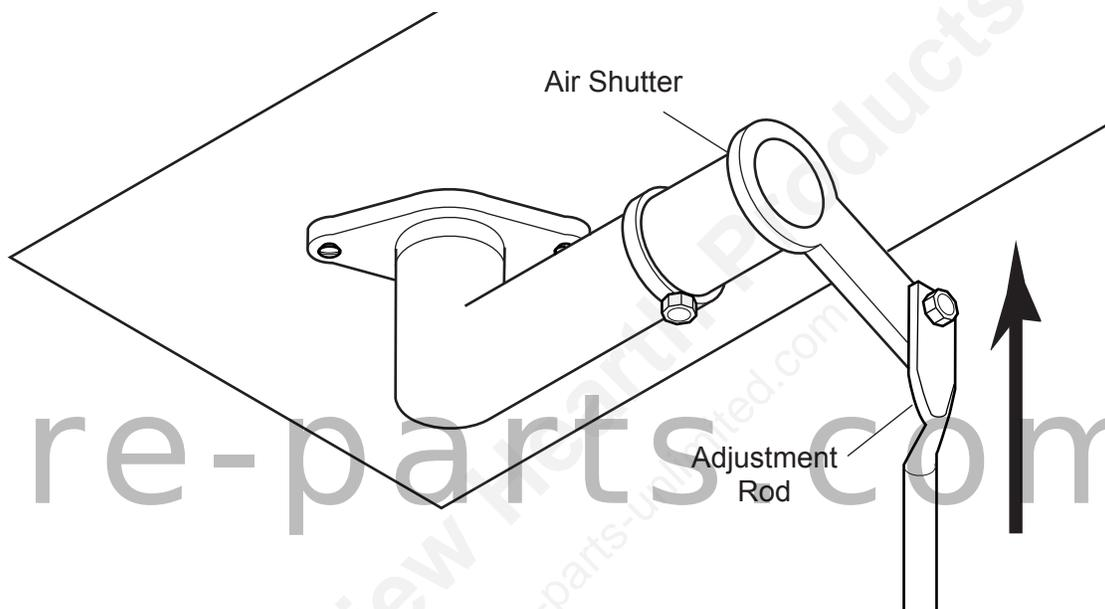

Figure 45 - Push Adjustment Rod Up to Open Air Shutter
- To increase air mixture, push up the adjustment rod located beneath the stove. This opens the shutter more and will stop sooting. *See Figure 45.*